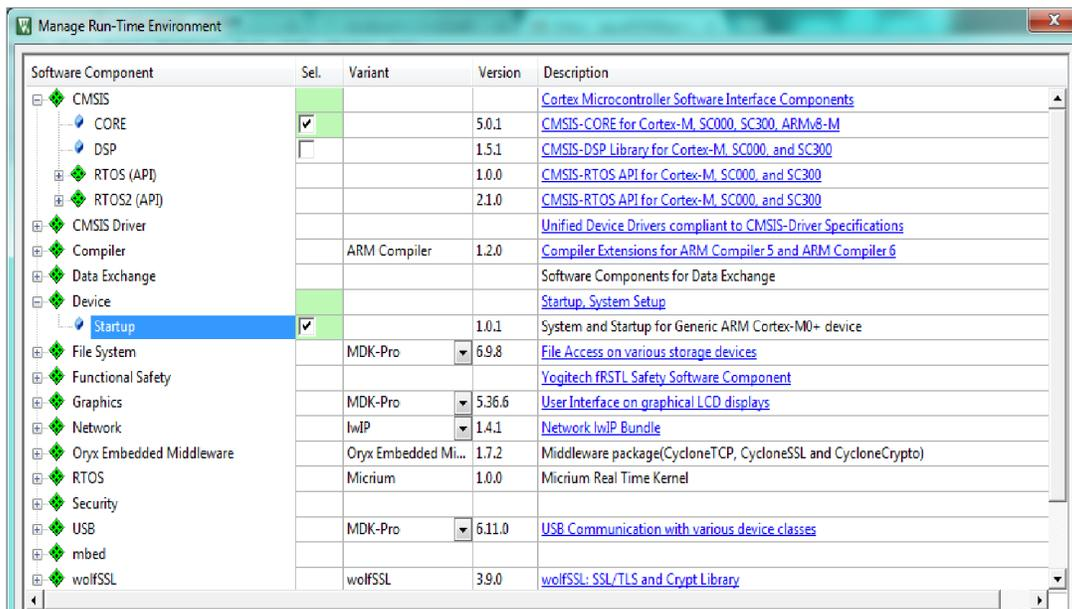

Figure 5: Software Components
5. Click the **Manage Run-Time Environment** symbol  and under **Software Component**, select the appropriate components and click **OK**, see Figure 5.